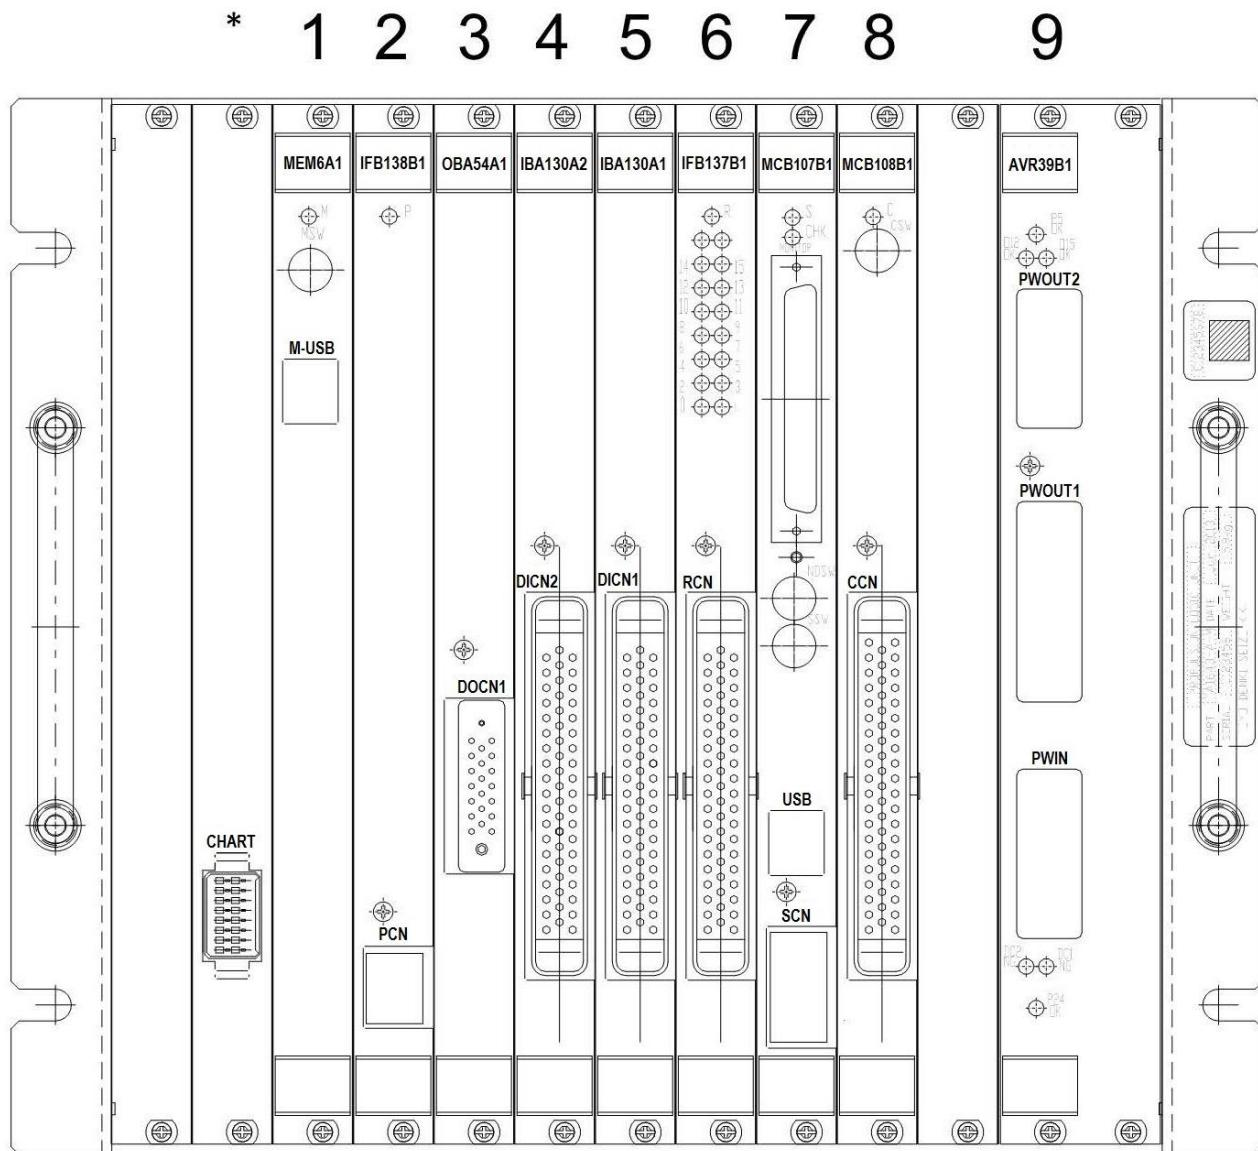

Figure 5-8: Propulsion Logic Unit Circuit Boards
1. Remove the connectors from the front panel of the circuit board. The PLU circuit board locations are shown in Figure 5-8. With the connector latch in the upper position, the connector is locked in place. With the latch pulled down, the connector can be removed and installed.